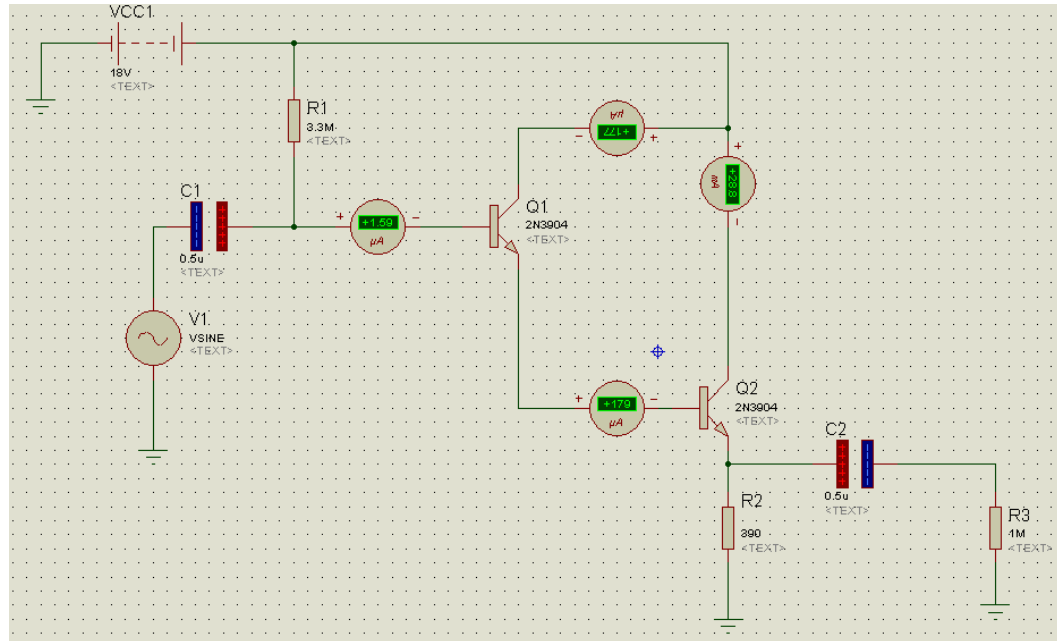

Figure 5.1
A Darlington Connection consists of cascaded emitter followers, typically a like in Figure 5.1. The base current of the second transistor comes from the emitter of the first transistor. Therefore, the current gain between the first base and the second emitter is:
1. Connect the circuit by using Proteus Simulation software as shown in Figure 5.1.